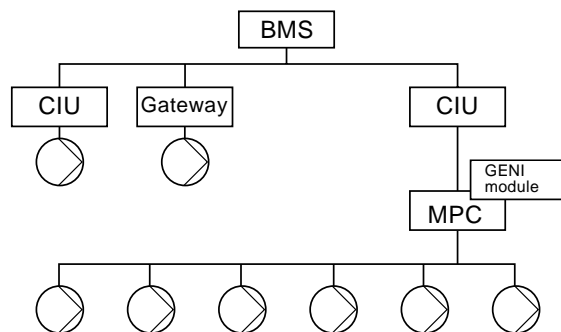

Fig. 15 UPE Series 2000 FZ in BMS systems
- UPE Series 2000 FZ. See fig. 15.